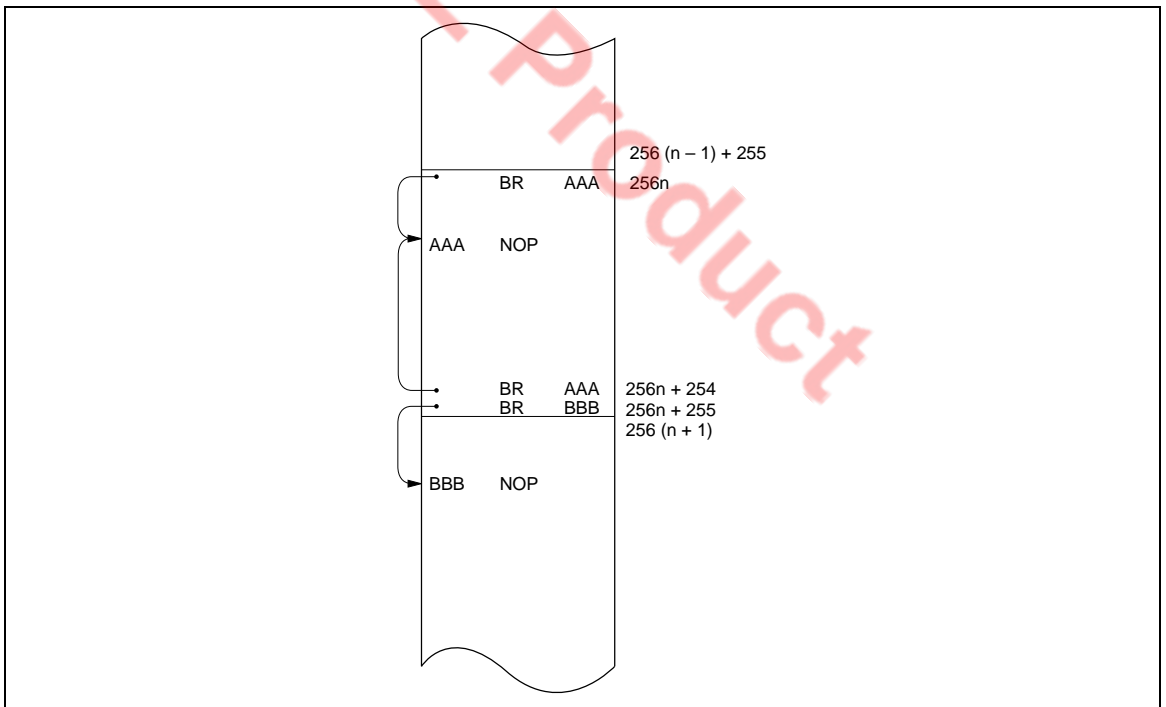

Figure 78 Branching when the Branch Destination is on a Page Boundary
**Current Page Addressing Mode:** The MCU has 64 pages of ROM with 256 words per page. A program can branch to any address in the current page by executing the BR instruction. This instruction replaces the eight low-order bits of the program counter (PC7–PC0) with eight-bit immediate data. If the BR instruction is on a page boundary (address  $256n + 255$ ), executing that instruction transfers the PC contents to the next physical page, as shown in figure 78. This means that the execution of the BR instruction on a page boundary will make the program branch to the next page.
**Branch Destination of BR Instruction on Page Boundary:** If a BR instruction is located on a page boundary ( $256n + 255$ ), because of the hardware architecture the program counter contents will shift to the next page when that instruction is executed. When using a BR instruction on a page boundary, therefore, the branch destination must be set within the next page (see figure 78).